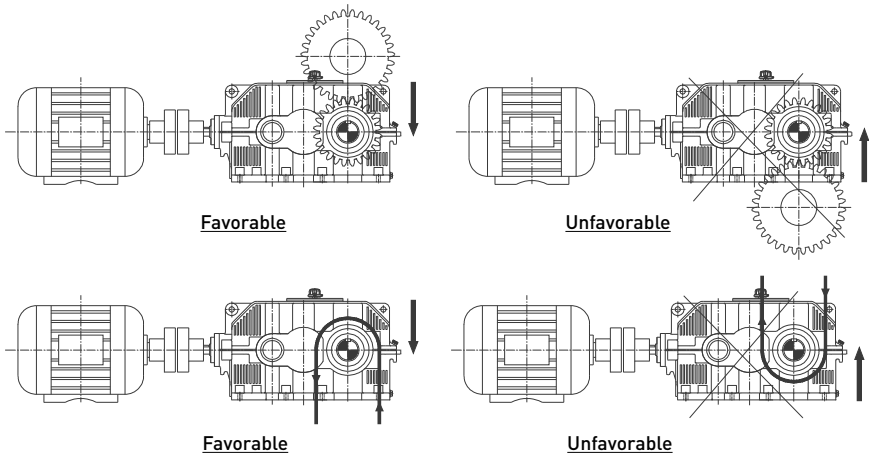

**Figure 16: Installation of gearbox on housing base**
The gearbox can be mounted in an inclined position, refer Figure 16: Installation of gearbox on housing base (A) and (B), only if this requirement is specified while ordering out the gearbox.